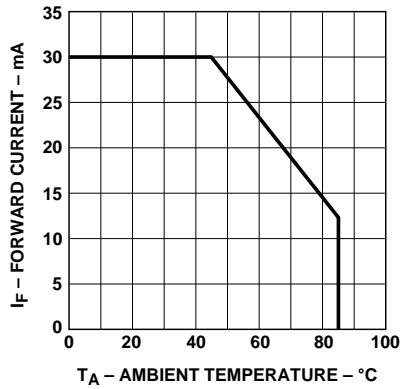

Figure 4. Maximum DC Current vs. Ambient Temperature.
3. Derate linearly as shown in Figure 4.